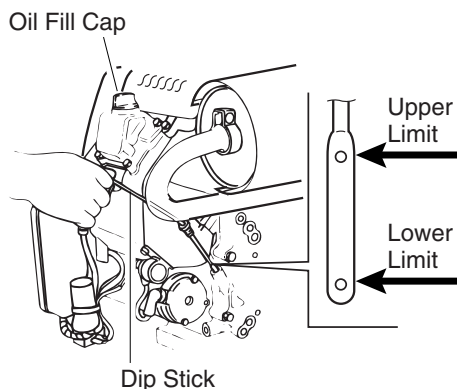

Figure 6 - Checking Oil Level
1. Remove dipstick (see Figure 6). Wipe dipstick clean.
3. If level is low, fill to top of oil filler neck (see Figure 6). Only use oil recommended in engine owner's manual.